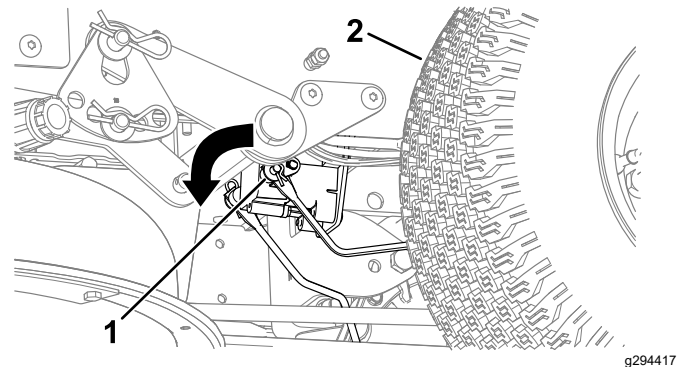

Figure 53
4. Locate the shaft on the electric brake where the brake link arms are connected (Figure 53).
5. Rotate the shaft forward to release the brake as shown in Figure 53.